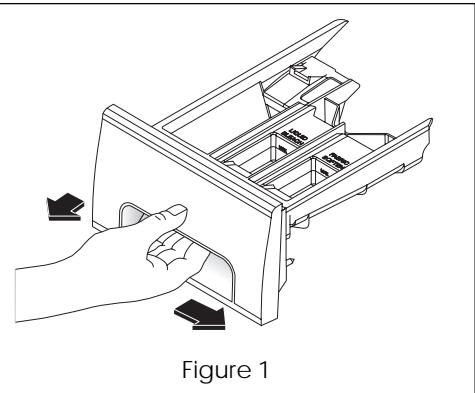

Figure 1
- Remove the drawer by first sliding the safety latch to the right, then pulling the drawer out until it stops. (Figure 1)
- This is a result of the siphoning action and is part of the normal operation of the washer. Water may be removed by removing the dispenser drawer (see Page 9, Figures 1 and 2) and draining water into the empty drum or sink.